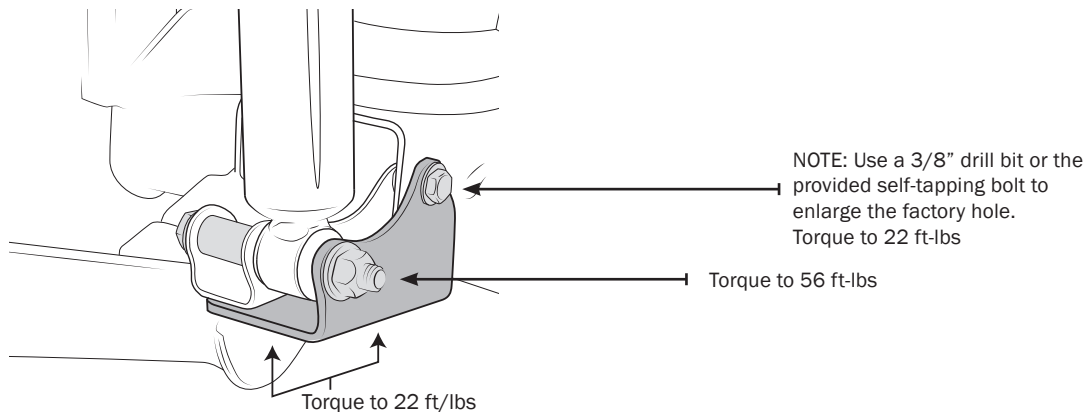

Figure 26
- A. Install Shock Doubler brackets on both sides as shown using supplied hardware (Fig. 26).
- B. Install shocks in Shock Doubler brackets as shown using supplied hardware (Fig. 26).